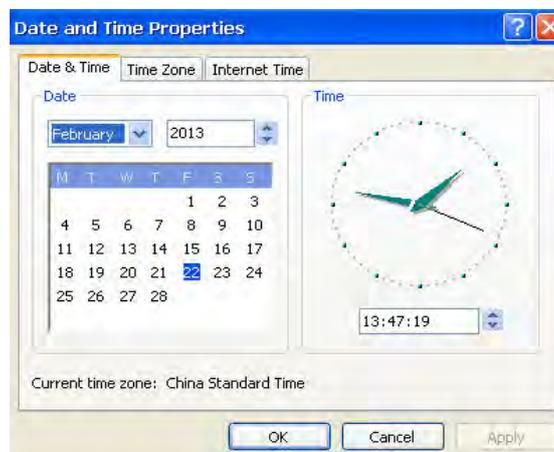

Fig. 5-4 Date and time settings screen
- m) **Date Time:** Set the current date and time in the system-defined format. Click on **Date Time** to bring up the **Date and Time Properties** settings screen (see Fig.5-4).